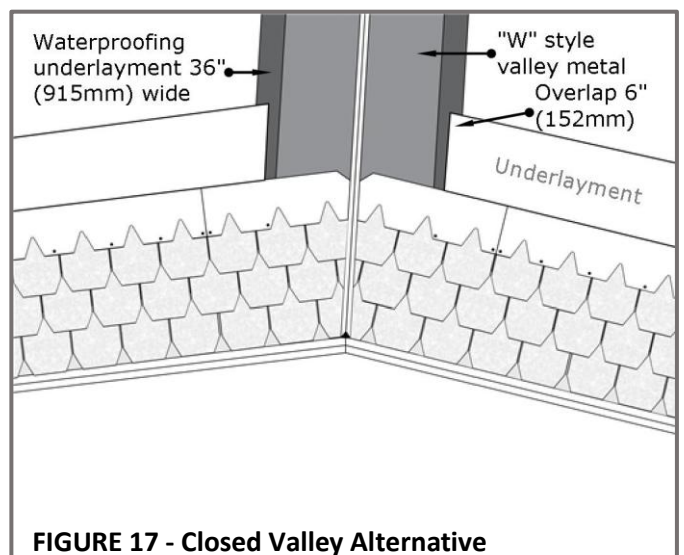

FIGURE 17 - Closed Valley Alternative
- When trimming the shingles at the valley, leave a **1/16" to 1/8" (1.6 to 3.2mm)** gap between the cut edge and the "W" fold. See **Figure 17**.